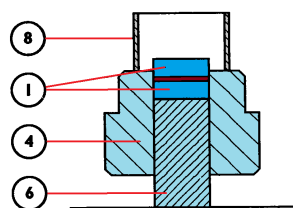
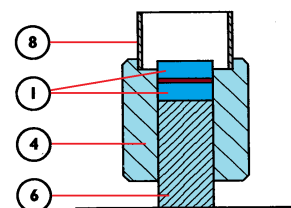

Figure 3.
Figure 4.
Invert the die and place the extractor ring (8) into position on the cylinder body as shown in Figures 3 and 4. (Figure 3 is for the 5mm, 10mm and 13mm dies and Figure 4 for the 20mm die and above).